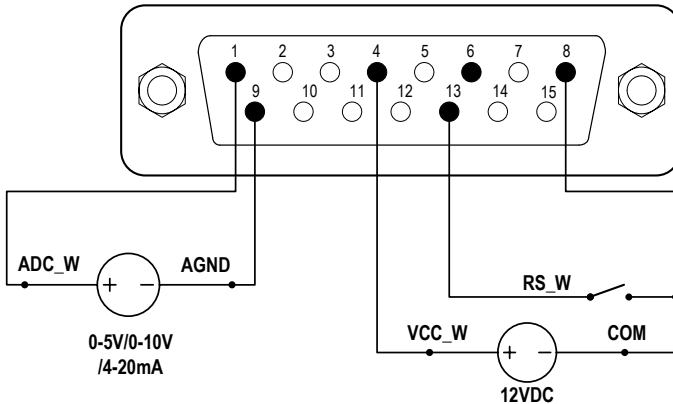
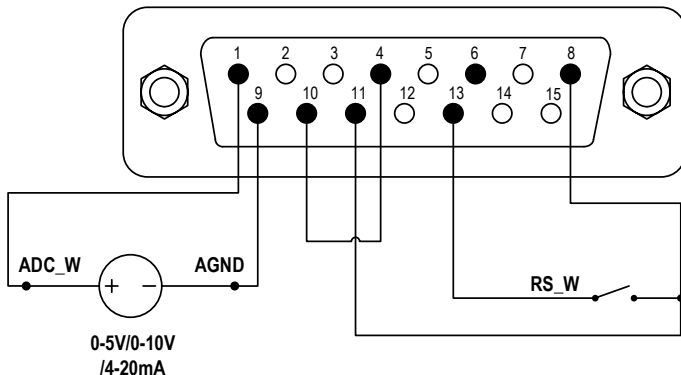

Figure 39. DB15 Wiring with External 12VDC Power Source
Figure 40. DB15 Wiring with Internal 12VDC Power Source
- 1) Switch the power off. Wire the DB15 connector as shown on Figure 39 or Figure 40, and connect it to the DB15 port on the rear of the pump.